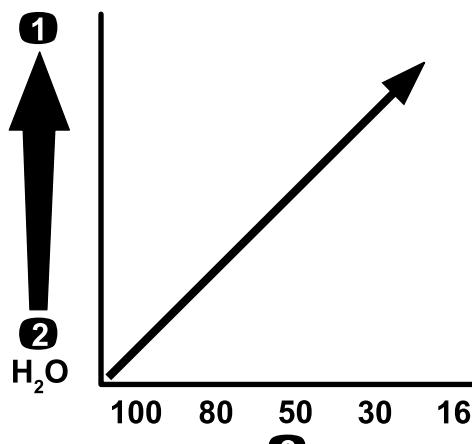

Figure 22
**Important:** When you spray with higher viscosity (thicker) chemical products or solutions with wettable powders, you may need to use a coarser screen mesh for the optional pressure-filter; refer to Figure 22.